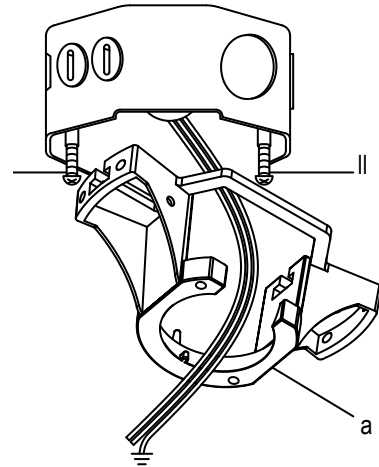

Fig. 5
**Step 2.** Attach the ceiling mounting bracket to the outlet box using the screws and washers included with the outlet box. (Fig. 5)